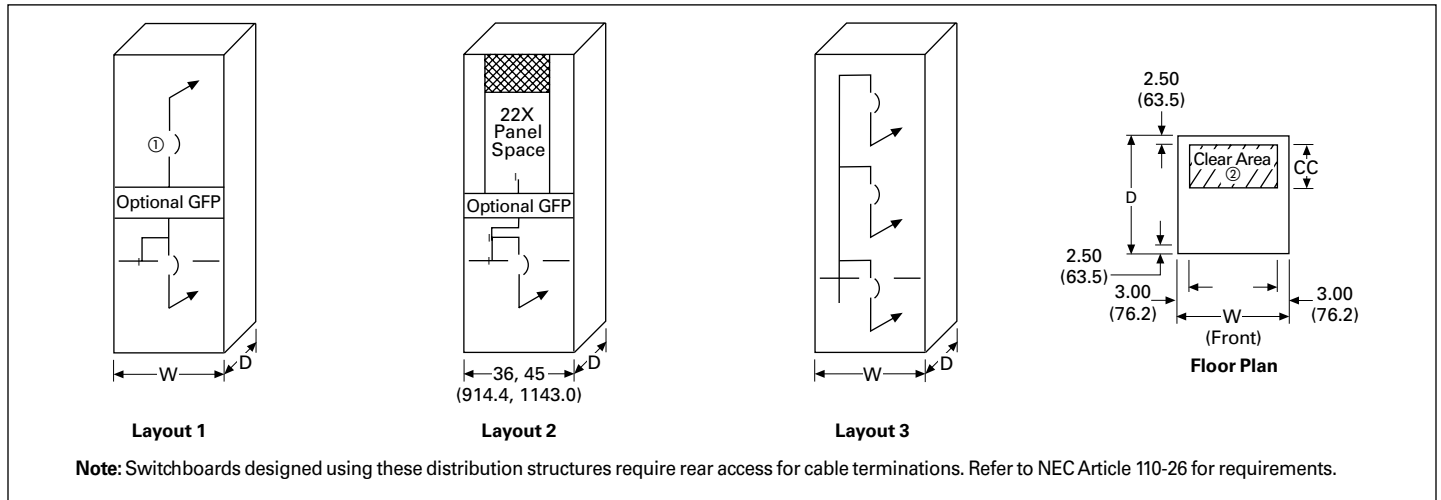

Figure 21.4-6. Individually Mounted Feeder Layouts—Dimensions in Inches (mm)
- ① When using top-mounted (bottom feed) inverted bolted switches, verify acceptance with code authorities.
- ② For **Layout 2**, width will be 36.00 or 45.00 inches (914.4 or 1143.0 mm) depending on size of panel mounting devices. Refer to **Page 21.2-12**.
Table 21.4-19. Stacked Distribution Structure Sizes for Figure 21.4-6 Layouts 1 and 2—Dimensions in Inches (mm) ③
Table 21.4-20. Stacked Distribution Structure Sizes for Figure 21.4-6 Layout 3 Only—Dimensions in Inches (mm)